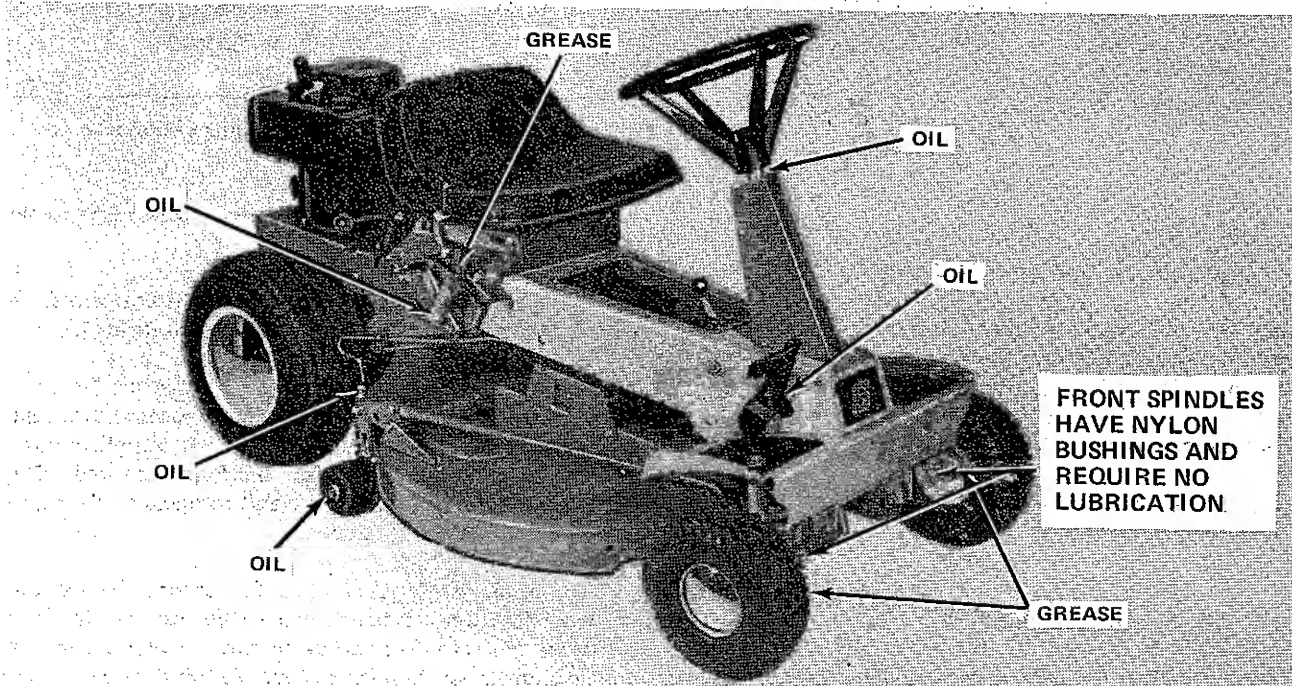
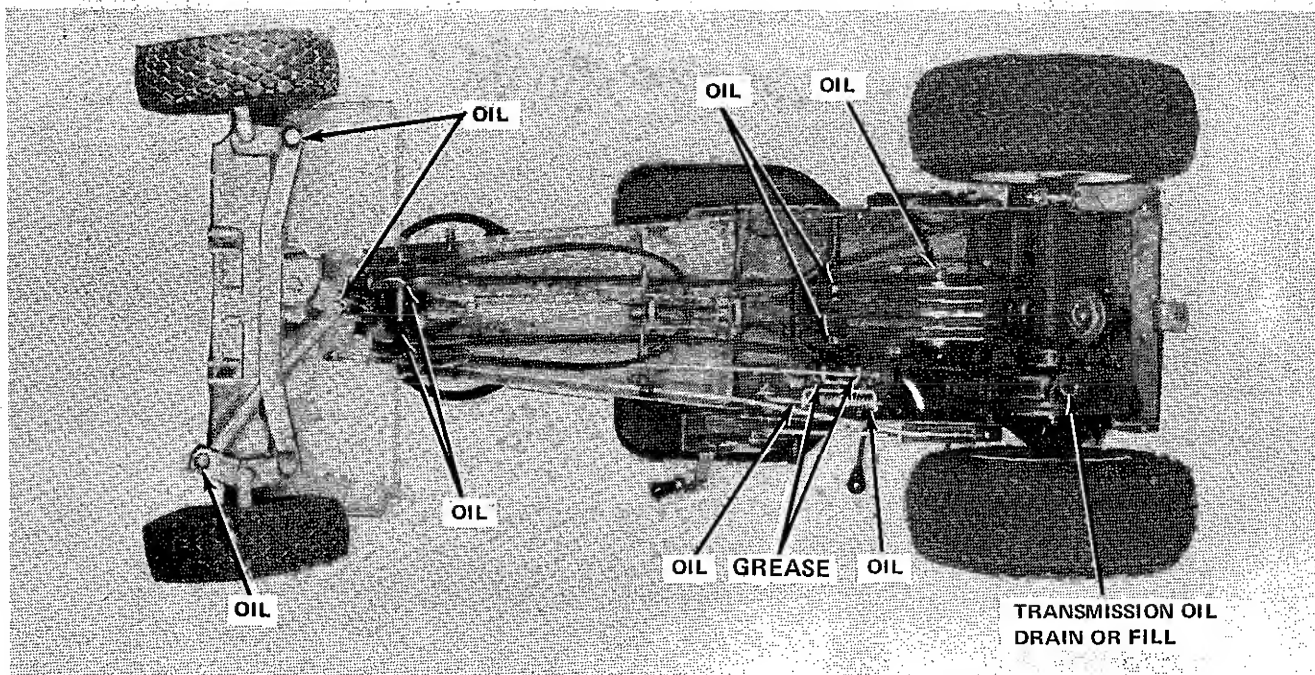
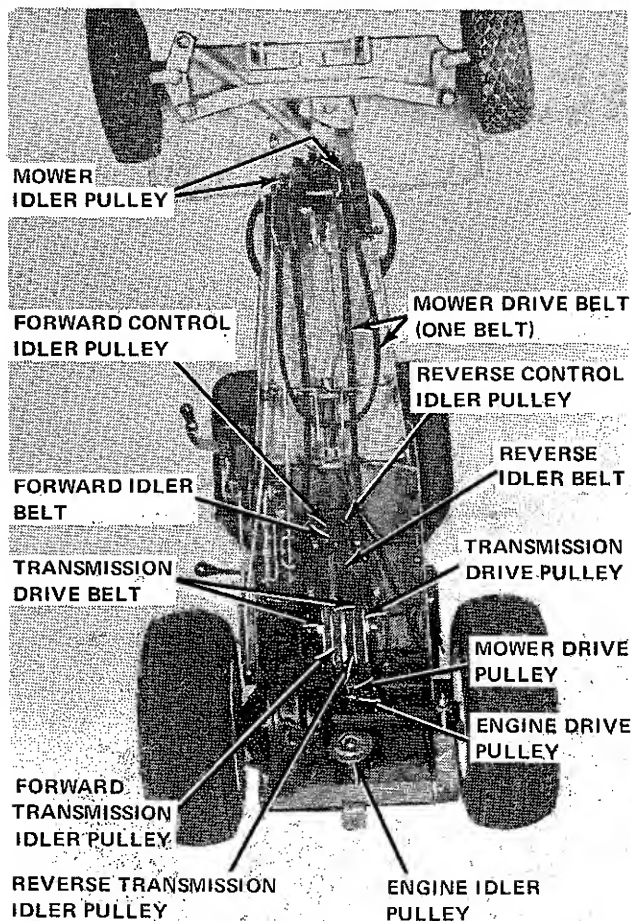
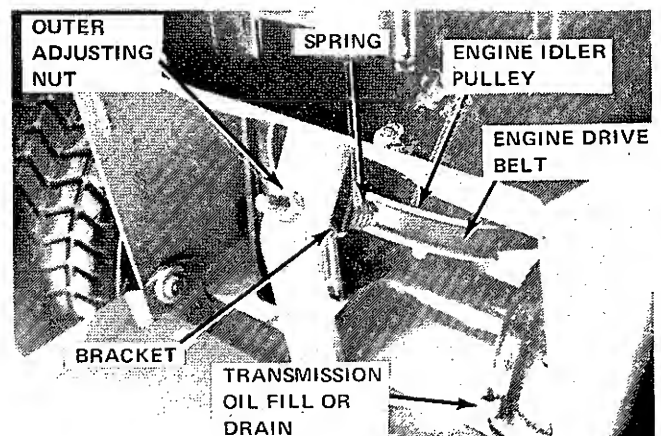

Figure 6-2. Right Side Lubrication Points
Figure 6-4. Bottom Lubrication Points
Figure 6-10. Belt and Pulley Location
Figure 6-12. Engine Idler Pulley and Drive Belt
2. Apply light engine oil every 10 operating hours to all points specified in Figures 6-2, 6-3, and 6-4 except tie rod and draglink pivots. Apply 10W-30 or heavier motor oil to tie rod and draglink pivots (Figure 6-4).
To check level when vehicle on all four wheels, remove fill and drain plug (Figure 6-12). To check level when vehicle upright, remove fill and drain plug (Figure 6-4).
5. Place mower end of drive belt in bracket under frame. (Figure 6-4).
Refer to Figure 6-10 for location of pulleys and belts.
3. Open battery cover at rear of vehicle. Back off the outer adjusting nut (Figure 6-12) far enough that the tension on the engine drive belt is reduced to the point where the belt may be removed from the engine crankshaft pulley. It may be necessary to completely remove the outer adjusting nut to accomplish this.
1. Open battery cover at rear of vehicle (Figure 6-12).
2. Push engine idler pulley (Figure 6-12) in against spring until engine drive belt can be slid from pulley. If spring does not allow sufficient compression to allow belt removal, loosen outer adjusting nut a few turns.
3. Disengage engine drive belt from engine drive pulley (Figure 6-10) and remove from battery cover opening.
4. Working through battery cover opening, install new transmission drive belt (Figure 6-10) on engine drive pulley. Carefully work belt over outside transmission drive pulleys and depress engine idler pulley (Figure 6-12) enough to slip new engine drive belt in place. Adjust drive belt as instructed in paragraph 5-7 of this manual.